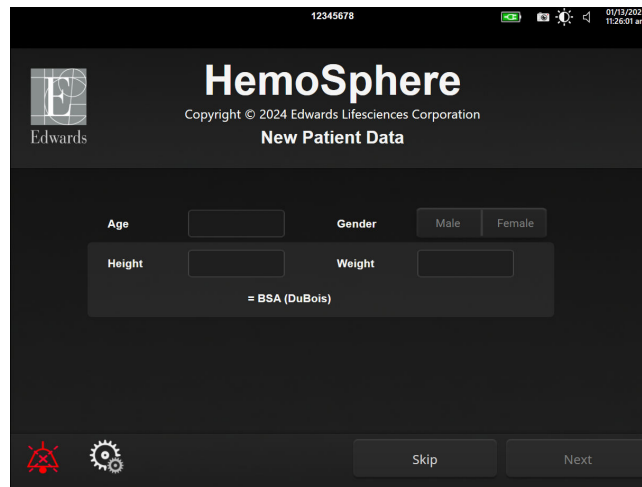

Figure 6-2: New Patient Data screen
5. The **New Patient Data** screen appears. See Figure 6-2 on page 80.